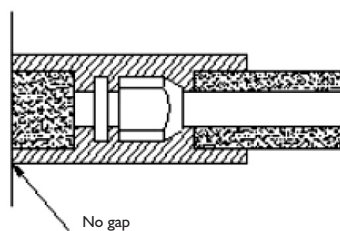

Fig 4
2. The joint connecting to the indoor unit must be wrapped by thermal insulation material. There shall be no gap between the connecting pipe joint and the wall of the indoor unit. Refer to Figure 4.